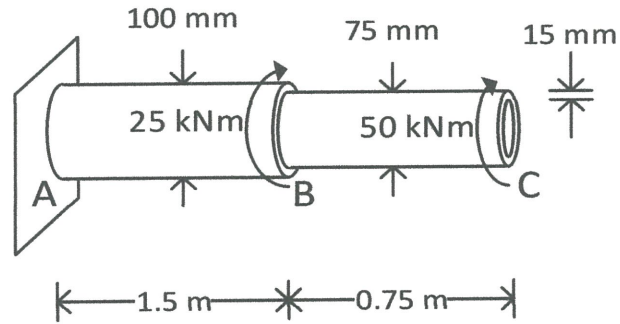

FIGURE Q5
- Q5** (a) With the aid of sketch, explain **TWO** (2) application of torsion in beam. (4 marks)
- (c) **FIGURE Q5** shows multiple bars rigidly connected to a wall. Rod AB is a solid circular section with 100 mm diameter and rod BC is circular hollow section with 75 mm outer diameter and thickness of 15 mm. Length of rod AB and BC are 1.5 m and 0.75 m respectively. 25 kNm and 50 kNm torsion are applied at point B and C respectively.